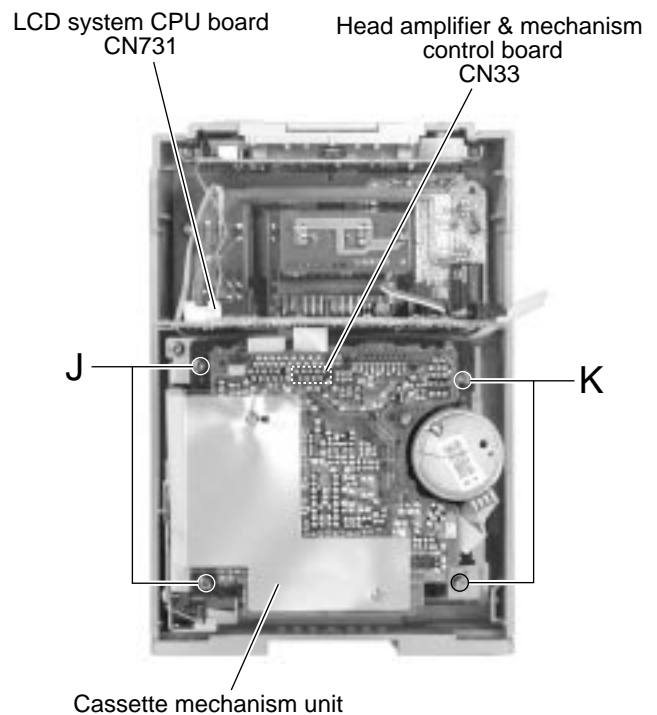

Fig. 17
■Removing the cassette mechanism unit (See Fig. 17)